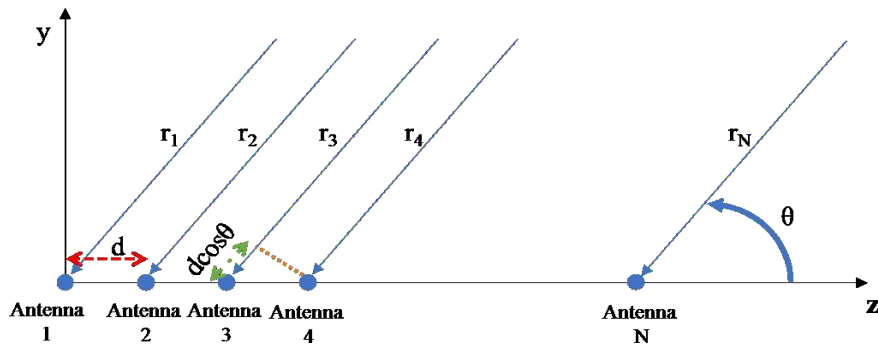

Figure 2 N Element Linear Array
An array with identical radiation patterns and progressive phase is called uniform array. Figure 2 shows linear antenna array configuration. These antennas are isotropic. We use isotropic antennas for the calculation of antenna factor and multiply it with the antenna element radiation pattern for simpler calculations. The interelement spacing is d . Let's assume that a wave comes from a far distance with the angle θ from the Z-axis. Therefore, the wave will be a planar wave (nearly). When the signal is received by antenna 4, it is not received by antenna 3. Because, the wave must travel “ $d \cos\theta$ ” more to reach antenna 3. It must travel “ $2d \cos\theta$ ” to reach antenna 2 and “ $3d \cos\theta$ ” to reach antenna 1. If we assume that the array is uniform, the array factor is given in equation (1). “ N ” is the number of antennas, “ k ” is the wave number, “ θ ” is the angle between the wave and the “ z ” axis and “ β ” is the phase between the elements.